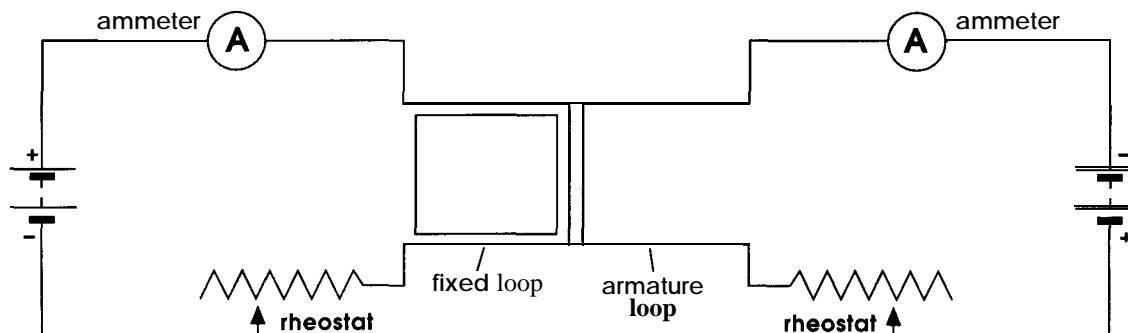

figure 3
- Connect the 2 separate circuits as indicated in figure 3.